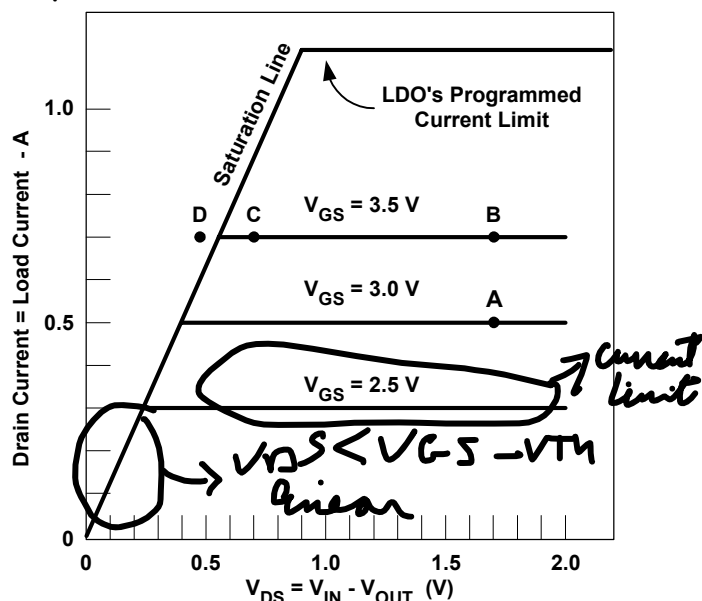
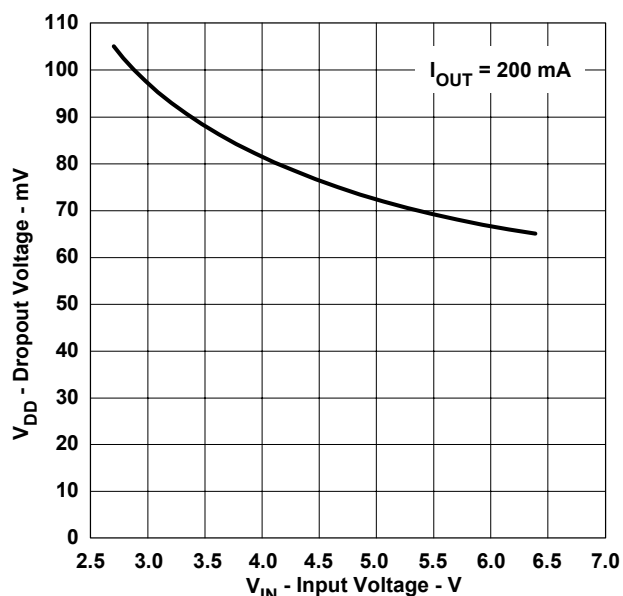

Fig. 3 Operating region of an LDO's N-channel pass element.
Fig. 7. TPS79901 dropout voltage vs. input voltage.
Fig. 3 shows the operating region of an LDO's N-channel pass element. The range of operation is limited in the x-axis by the saturation region of the pass element, and limited in the y-axis by either the pass element's saturation region or by the IC's programmed current limit. In order to operate properly and maintain a regulated output voltage, the pass element must operate within the boundaries set by these two lines. In the example, the drain-to-source voltage of 1.7 V and the drain current of 500 mA set the operating point at "A." At this point, the LDO sets the pass element's gate-to-source voltage at 3 V to maintain regulation. A line drawn through the origin and point "A" represents the 3.4- Ω resistance.
Consider a change to the static conditions in the example: if the load resistance decreases (an increase in load current), **the LDO must react to maintain regulation**. If it doesn't react, the LDO has a higher voltage drop across the pass element which causes the output voltage to fall out of regulation. The LDO must decrease the pass element's resistance by increasing the gate-to-source voltage on the FET. When the gate-to-source voltage increases, the operating point moves upward, assuming a fixed input and output voltage. If $I_{OUT} = 700$ mA, the error amplifier increases the pass element's gate-to-source voltage to 3.5 V to maintain regulation. This corresponds to "B." A line drawn through the origin and point "B" now represents a pass element resistance of 2.4Ω . Fig. 3 shows that with a drain-to-source voltage of 1.7 V, the LDO's maximum current draw is only limited by the maximum programmed current limit.
LDO datasheets can only specify the IC's dropout voltage under a limited number of operating conditions. Few datasheets provide a graph like that shown in Fig. 3. For all other conditions, the user must interpolate the data to determine the dropout voltage at a specific output current. This task is surprisingly easy. As an example, consider an application that requires $V_{OUT} = 3$ V at 170 mA with an input voltage that varies between 3.15 V and 3.45 V. The designer has chosen a TPS79330 LDO and needs to know if it can be ensured that the LDO doesn't enter dropout.
Table 1 shows the datasheet's ensured dropout voltage from the parametric table. The datasheet shows that the maximum dropout voltage (ensured over all temperatures) for a 3.0 V output at 200 mA is 200 mV. The minimum input voltage of 3.15 V for this application requires the effective dropout voltage be less than 150 mV at 200 mA. For this regulator, the actual dropout is less than 200 mV since the current is less than 200 mA, but the datasheet does not specify the dropout voltage at 170 mA. When operating in dropout, the LDO pass element is at its minimum $R_{DS(on)}$ which is equivalent to operating on the saturation line like the one shown in Fig. 3. This minimum resistance is calculated by dividing the dropout voltage by the test current. The TPS79330 pass element minimum $R_{DS(on)}$ is shown in Equation (3).
Another factor affecting an LDO's minimum dropout resistance is the input voltage to the device. This is a second-order effect, but is worth noting. The higher output voltage options require a higher input voltage, which allows the device to drive the pass element harder, and in turn provides a slightly lower resistance. Most discrete FET datasheets show a change in $R_{DS(on)}$ versus gate-to-source voltage. Some LDO datasheets provide a graph (Fig. 7) of dropout versus input voltage, but this is rare. Even without a graph, this information is evident from the dropout data shown in Fig. 4. The 3.0-V option (TPS79330) in Fig. 3 has a 200-mV dropout voltage while the 4.75-V option (TPS793475) has a 125-mV dropout voltage. This is a 37 % reduction in dropout voltage.